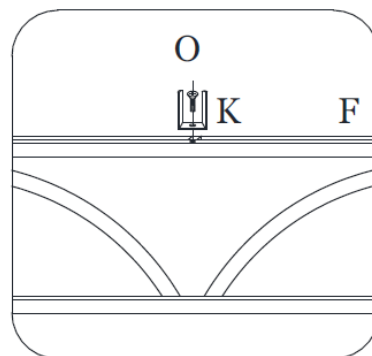

Figure 2
Step 3: Attach Small “U” Bracket (K) to both Long Cross-Beams (F) using Screw (O). See Figure 2.